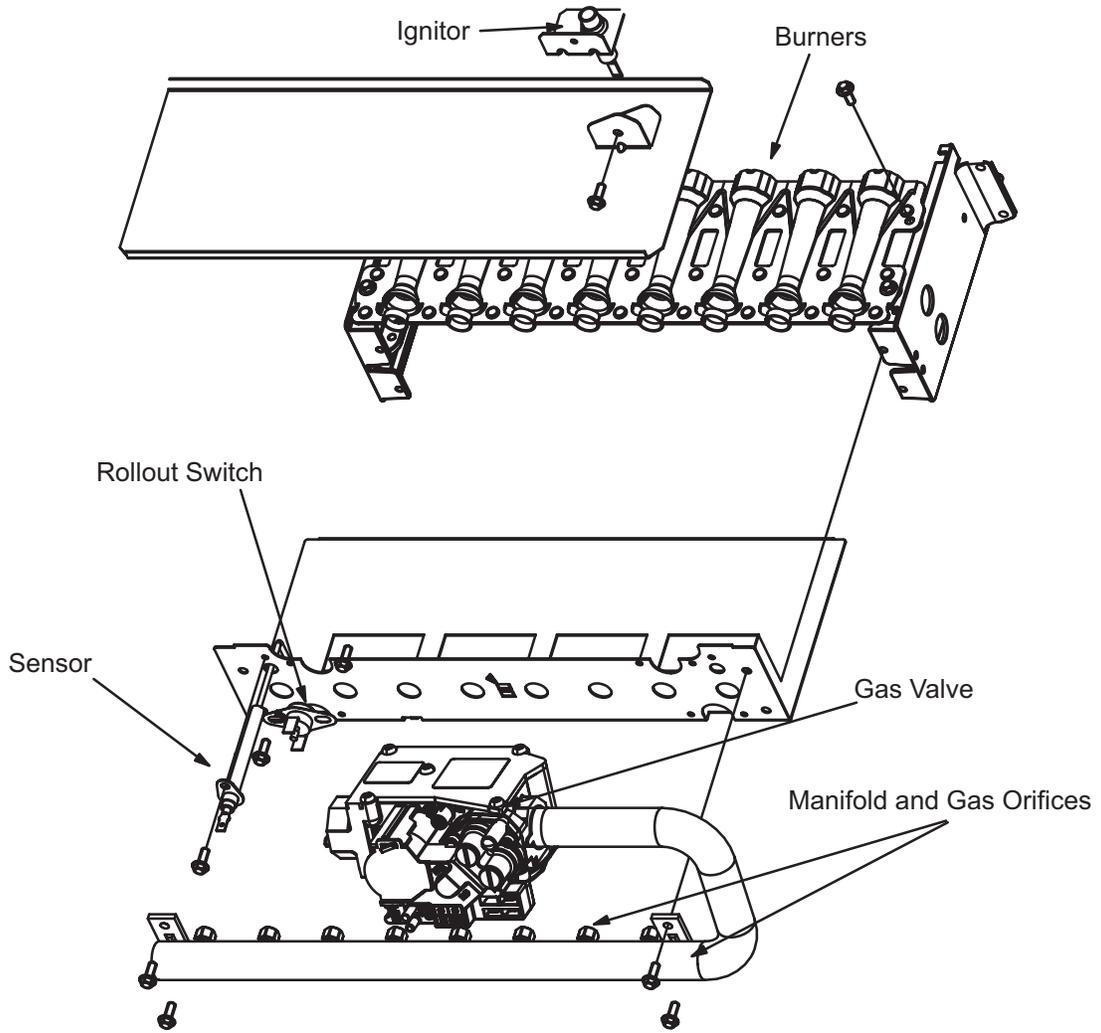
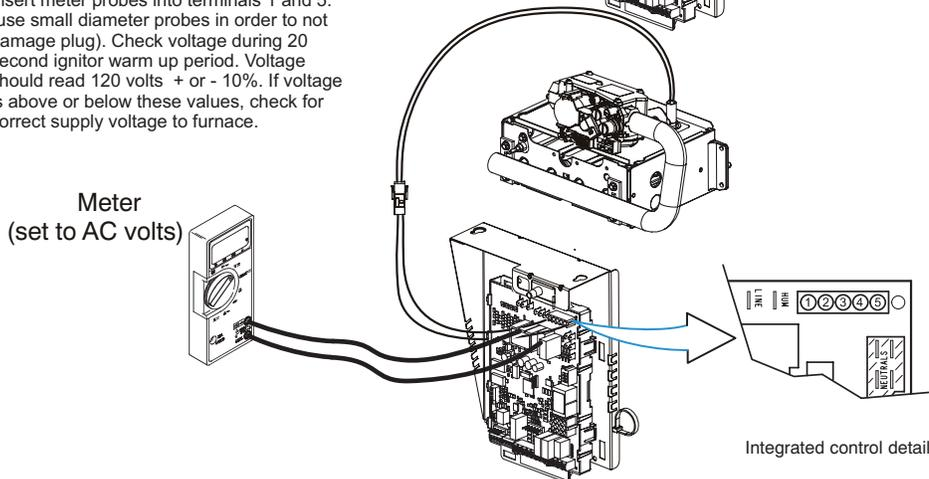

FIGURE 14
FIGURE 16
The SureLight® ignitor is made of durable silicon nitride. Ignitor longevity is enhanced by controlling voltage to the ignitor. The integrated control provides a regulated 120 volts to the ignitor for a consistent ignition and long ignitor life. Ohm value should be 39 to 70. See FIGURE 14 for ignitor location and FIGURE 16 for ignitor check out.
A flame sensor is located on the left side of the burner support. See FIGURE 14. The sensor protrudes into the flame envelope of the left-most burner. The sensor can be removed for service without removing any part of the burners. During operation, flame is sensed by current passed through the flame and sensing electrode. The SureLight control allows the gas valve to remain open as long as flame signal is sensed. A microamp DC meter is needed to check the flame signal on the integrated control. See FIGURE 15 and TABLE 9 for flame signal check and measurement.
The EL280UHE(X) is equipped with two rollout switches. See FIGURE 14 for location. The limits are a N.C. SPST manual-reset limit. When S47 senses rollout, the circuit breaks and the ignition control immediately stops ignition and closes the gas valve. Rollout can be caused by a blocked heat exchanger, flue or lack of combustion air. The switches are factory set to trip (open) at 210°F and cannot be adjusted. To manually reset a tripped switch, push the reset button located on the control.